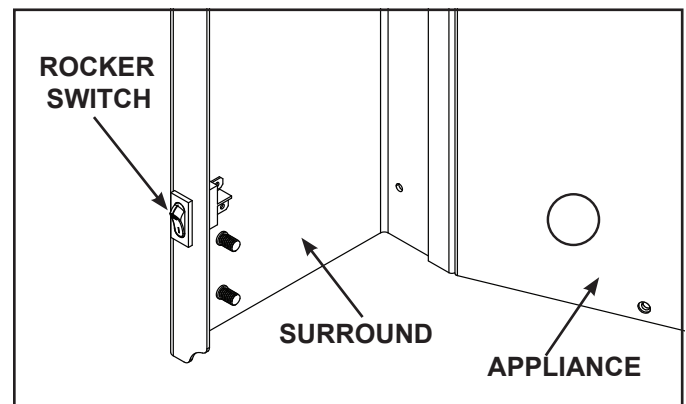

Figure 1 Rocker Switch Detail
3. Run the low voltage rocker switch wires behind the surround. Connect the low voltage wires to the rocker switch. See Figure 1.